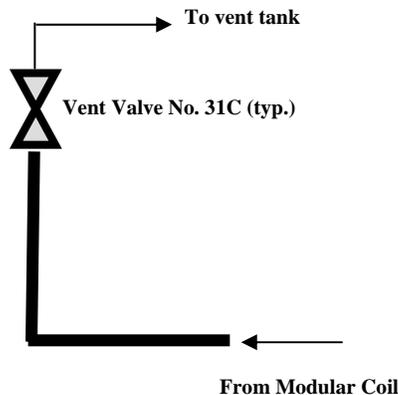

Figure 8- Typical Zone 3 Valve Assembly
- Continue flowing epoxy into the coil via the Zone 1 and 2 valves until epoxy is observed exiting each of the Zone 3 (Exit) valves [36 thru 47]. Figure 8-Typical Zone 3 Valve Assembly. **Close** each Zone 3 exit valve once epoxy reaches the control panel.